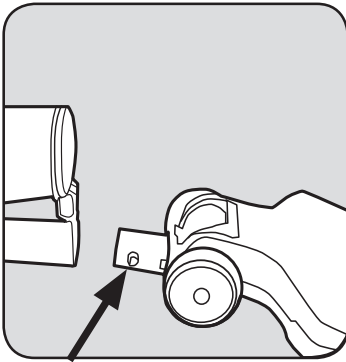

Fig. 14
1. Remove the floor nozzle by pressing the button on the neck of the nozzle. (Fig. 14)